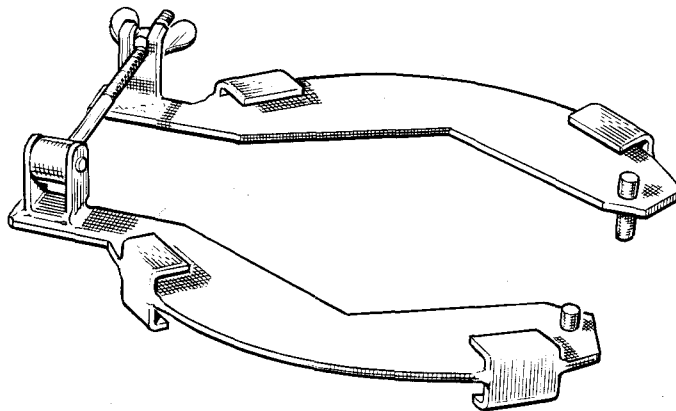

FIG. 8 CLAMP TO SECURE THE HF AERIAL BASE
- (b) Fit the two halves of the clamp on the plate plastic, screw clamp upwards as in fig. 8, and engage the two dowel pins in any two adjacent holes. Position it so that the clamp does not project outwards from the side of the vehicle.